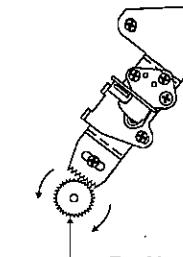

Figure 4-33.
Move the A/C head with the X value adjustment gear driver (JiGDRiVER-6) by the method shown in Figure 4-33, and adjust the A/C head so as to get the maximum envelop waveform. (Note: When the A/C head is adjusted, adjust so that the maximum envelop waveform is obtained nearest the position of initial setting made in Page 18.)
③ Move the A/C head with the X value adjustment gear driver by the method shown in Figure 4-33, and adjust the A/C head so as to get the maximum envelope waveform. (Note: At this time adjust so as to get the maximum envelope waveform nearest the A/C head position which has been set in case of X value rough adjustment as stated in Page 20, 3-②.)
④ Tighten finally the screws ① and ②. Be sure to tighten at first the screw ① and then the screw ②. Final tightening torque is 0.6N·m (If the screw ② is tightened first, the X value may deviate.)
⑤ Adjust the playback switching point (Refer to the electric adjustment method.)
⑥ Playback the self-picture-recorded tape, and check the flatness of envelope waveform and sound.